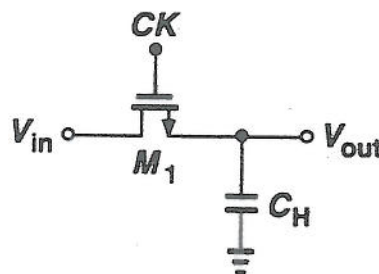
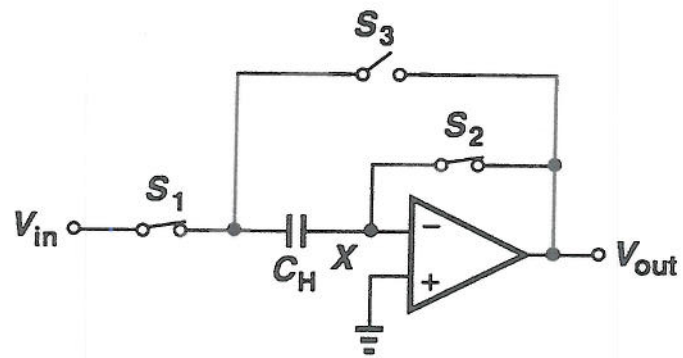

Figure 4.1
Figure 4.2
4. Figure 4.1 shows a NMOS sampling switch, M_1 , connected to a hold capacitor, C_H , to be used in the switched capacitor circuit Figure 4.2. When the switch is on, $CK=V_{DD}$, current conduction is defined by triode region of operation as:
- e) Figure 4.2 shows a circuit diagram of a unity gain sample and hold circuit.
- (iii) Draw an improved circuit schematic of Figure 4.2 which allows cancellation of non-ideal effects due to the switches and includes all clock generation circuits.